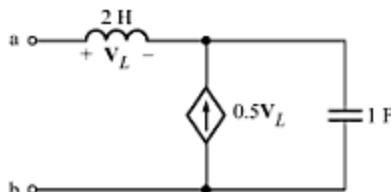

Fig. C-62
- C-93. Find the input admittance Y_{ab} of the network shown in Fig. C-62 and draw it as a parallel combination of a resistance R and an inductance L , giving values for R and L if $\omega = 1$ rad/s.